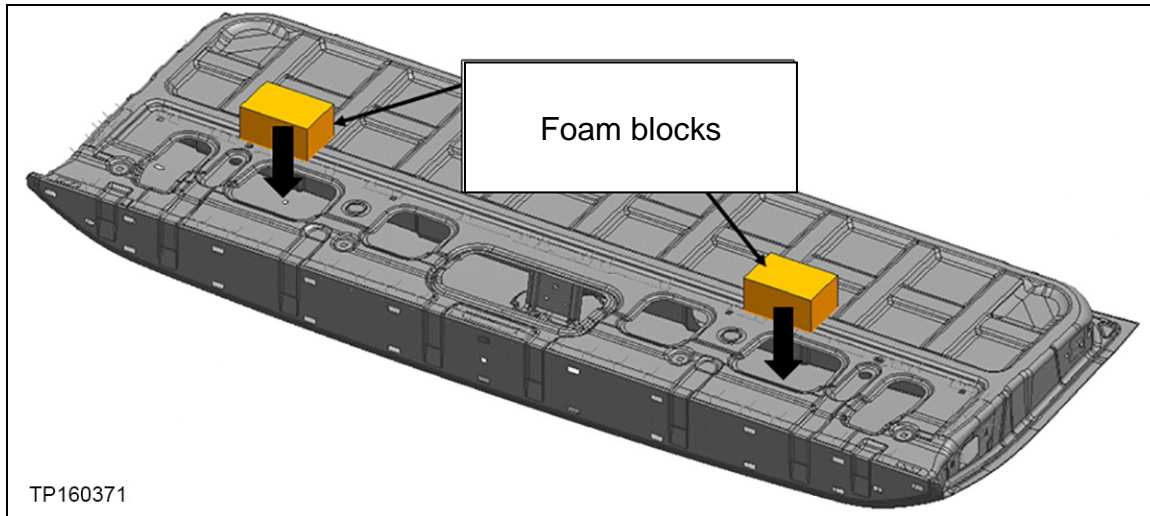

Figure 2
4. Install two foam blocks into the tailgate as shown in Figure 2 as follows.